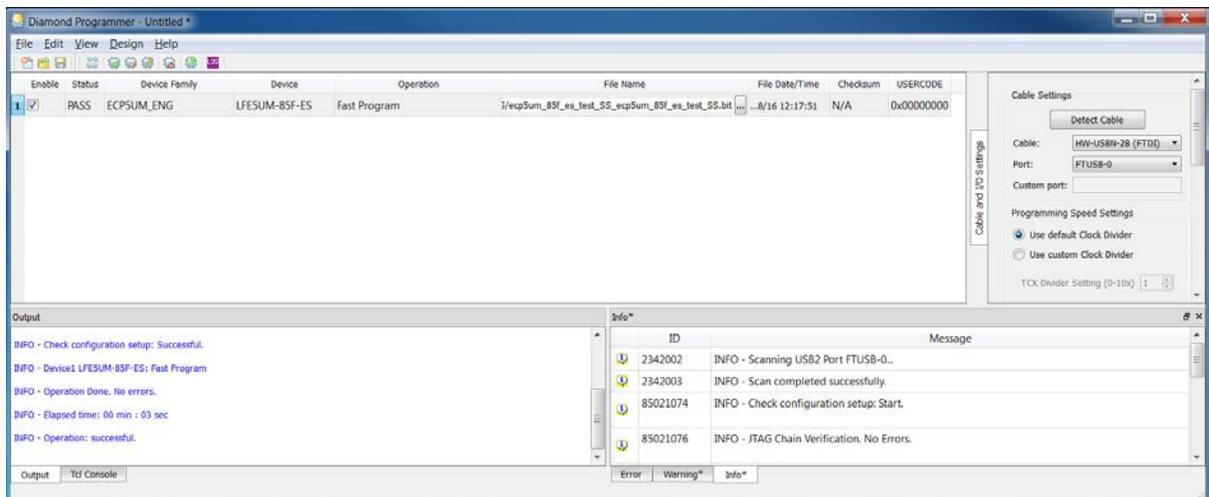

Figure 5.11. Successful Programming
- When the programming of the device is completed, the **Status** option changes to *PASS* and *Operation Successful* message appears in the **Output** console as shown in Figure 5.11. On the board, the green *Done* LED is lit when the device is successfully programmed (*Done* LED behavior is device dependent, see below for details).